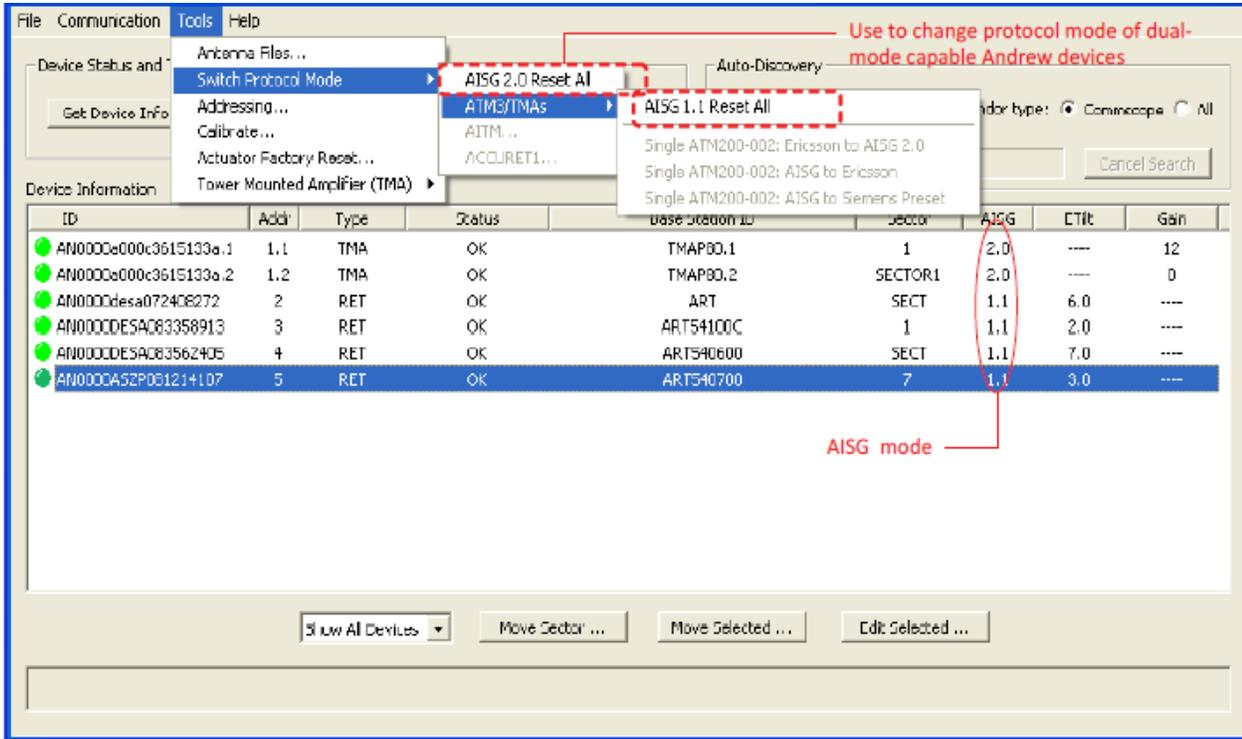

Figure 5-1. ATM200-002 AISG Protocol Reset
2. To operate in AISG 2.0, select **Tools**→**Switch Protocol Mode** →**AISG 2.0 Reset All** to reset all AISG 2.0 capable RET devices to operate in AISG 2.0 (Figure 5-1). This option sends command to all the devices available on the bus.
3. To operate in AISG 1.1, select **Tools**→**Switch Protocol Mode** →**ATM3 /TMAs** →**AISG 1.1 Reset All** to reset all AISG 1.1 capable RET devices to operate in AISG 1.1 (Figure 5-1). This option sends command to only ATM3 RET devices and selective TMA devices (software version starting with 0M).